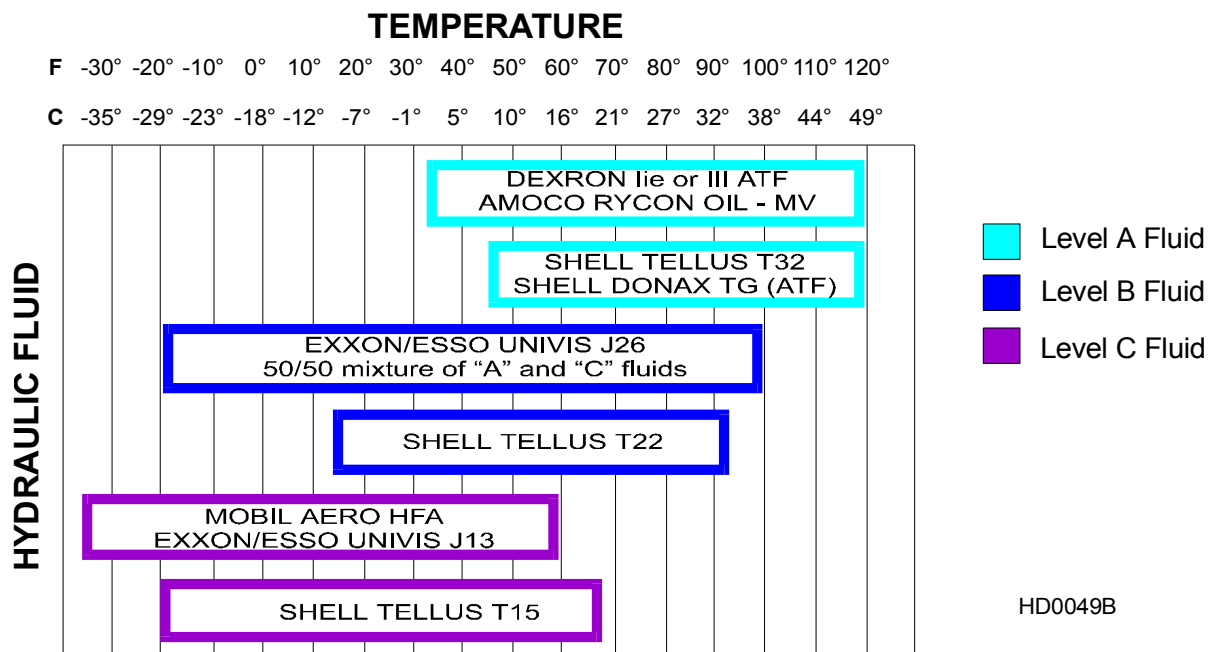

FIG. 3-5
**See Figure 3-5.** If you are operating in temperatures -20° to 100° F (-29° to 38° C), use an all-weather hydraulic fluid such as Exxon Unavis J26. For alternate fluids and/or other temperature ranges, refer to the chart below. Operating above the recommended temperature range of a fluid could result in excessive pump wear. Operating below the recommended temperature range could result in reduced hydraulic cylinder speed. To change fluid types, replace one gallon of the current fluid with one gallon of the alternate fluid.